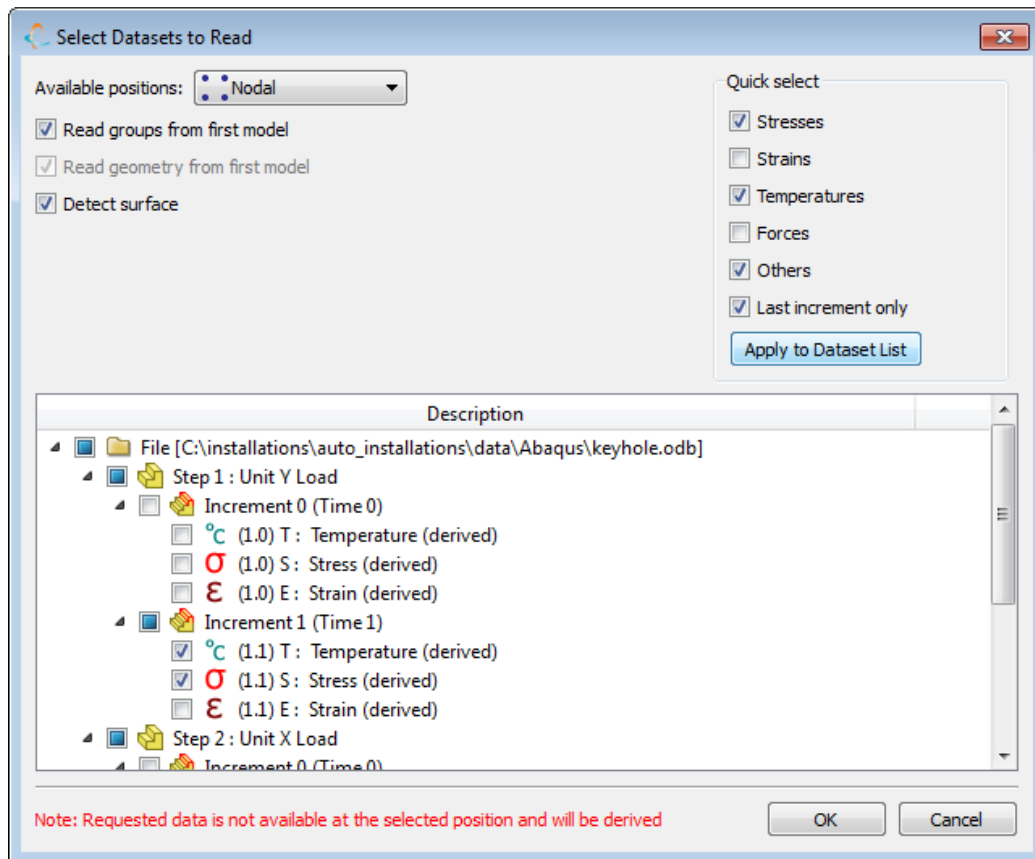

Figure 207.3-2
- These datasets are clearly suffixed in the pre-scan dialogue with the string: “**(derived)**” - see Figure 207.3-2.